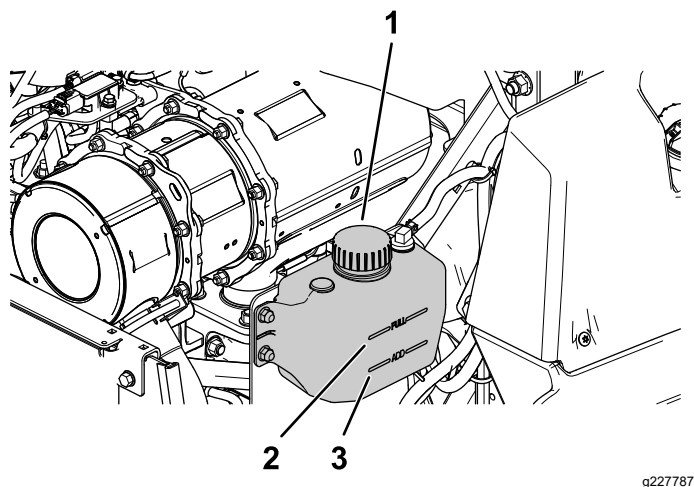

Figure 57
2. Check the level of the coolant in the expansion tank (Figure 57).
3. If coolant level is low, remove the expansion-tank cap, and add the specified coolant (Figure 57).